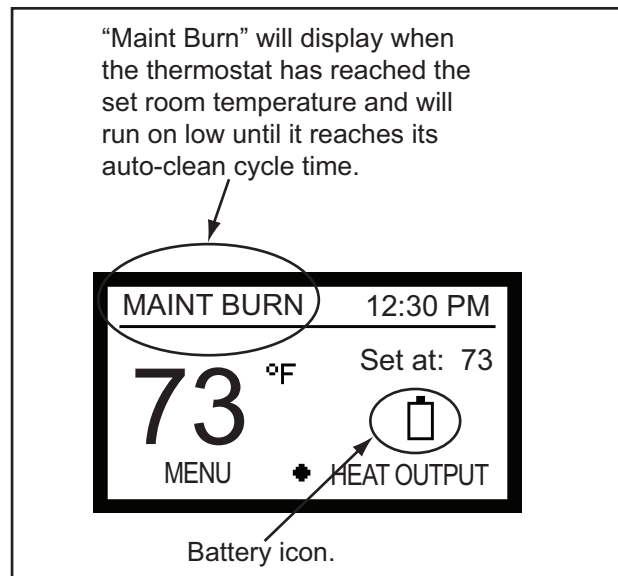

Figure 28.2
- A battery icon appears on your wall control to let you know you are now operating on battery power. **Figure 28.2.**
The wall control will display the battery icon when operating in the battery back-up mode. **Figure 28.2**